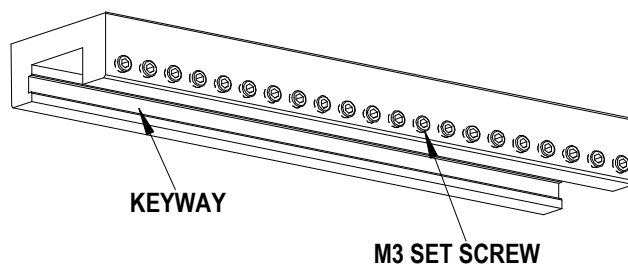

Figure 2-2
1. Along the lower edge of the tooling holder is a row of M3 set screws, (See Figure 2-2), back these out so that they do not protrude into the inside of the holder.